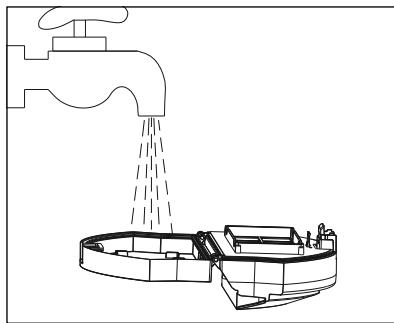

Fig. 12
- 6) Clean the dust container 16 and the sieve filter with cold or lukewarm water (see Fig. 12). Allow the dust container 16 and sieve filter to air dry completely before reinserting the dust container 16 into the appliance.